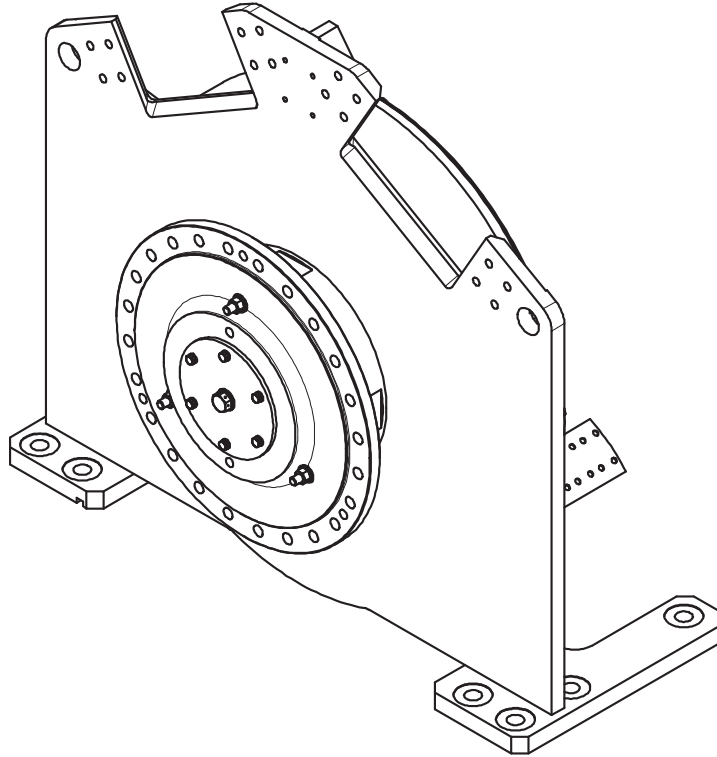

Figure 5: ODS Shaft Pedestal Assembly (with Drum Removed)
11. On the ODS pedestal unit, remove the flat head socket head bolts (6) and flange retainer plate. (See Figure 5).
16. Install and torque bolts and lock washers (24) on the ODS of the drum. (See Figure 5).